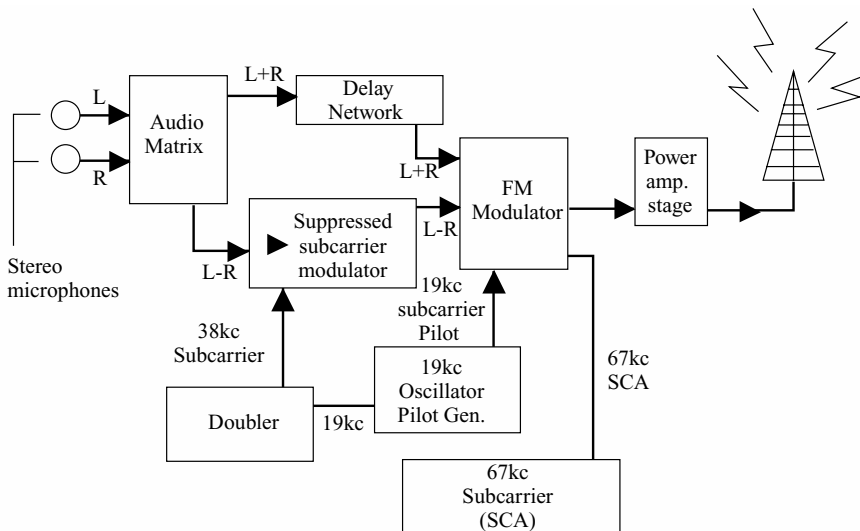

FIGURE 2-1 A block diagram of an FM stereo transmitter.
The two basic components needed for any stereo radio system are the right (R) and left (L) audio channel information. Refer to the basic stereo FM transmitter block diagram in Fig. 2-1. These left and right audio signals are matrixed, resulting in sum information ($L + R$) and difference information ($L - R$). Matrix is something within which something else originates or develops. To obtain sum information ($L + R$), $+R$ was added to L ; to obtain the difference information ($L - R$), a negative $-R$ of the same magnitude as the $+R$ (only 180 degrees out of phase) is added to L . Thus, $L - R$, the difference signal, was created. The composite $L + R$ and $L - R$ information is now used as FM modulating components in this system. Normally, the $L + R$ information could immediately FM modulate the carrier. However, to be certain that the $L + R$ information is in the same phase relationship to the $L - R$ information, as they were when they came from the matrix when the FM modulated the carrier, it is necessary to insert a delay network in the $L + R$ channel. The delay system is needed to shift the phase of the $L + R$ modulating component in such a manner that it will be in phase with the $L - R$ upper and lower 38-kHz sidebands when they also FM modulate the carrier.